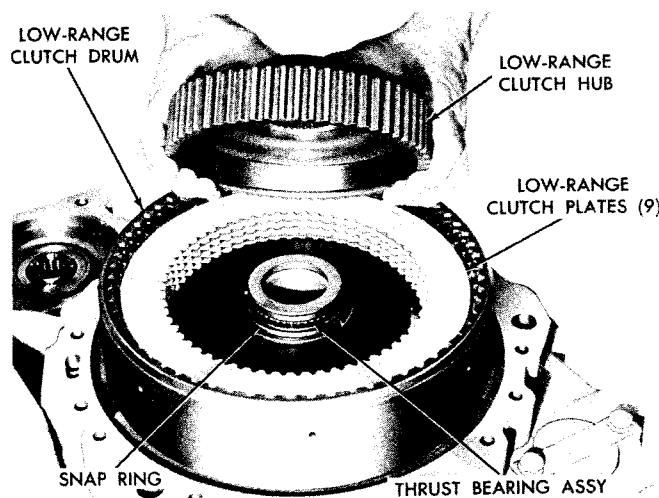

Fig. 7-23. Installing low-range clutch hub (-3 overdrive model)
(4) Beginning with an internal-splined clutch plate, alternately install five internal-splined and four external-splined clutch plates (fig. 7-23).
(5) Install the low-range clutch hub, engaging its splines with those of the internal-splined clutch plates (fig. 7-23). Rotate the hub until it is engaged with all five internal-splined plates.